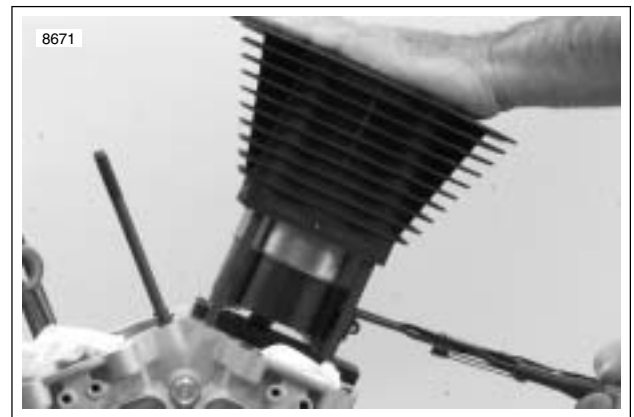

Figure 3-109. Compressing Piston Rings Using Piston Ring Compressor (Part No. HD-96333-51C)
9. See Figure 3-109. Compress the piston rings using PISTON RING COMPRESSOR (Part No. HD-96333-51C).